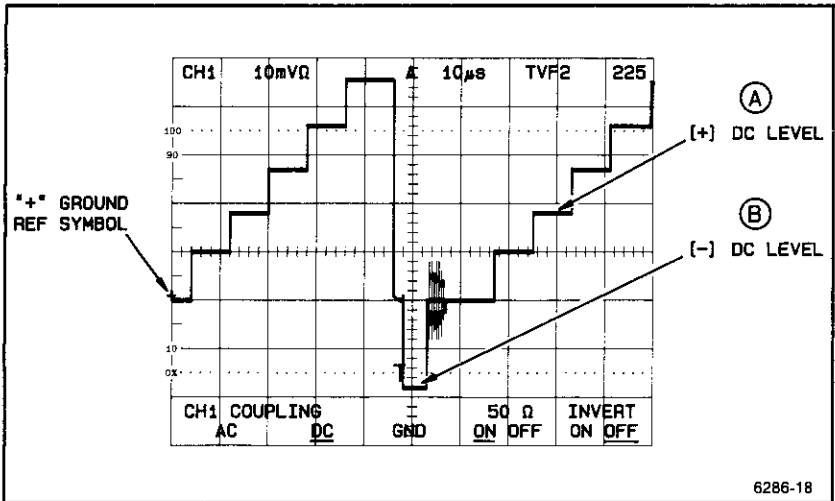

Figure 3-2. Instantaneous DC voltage levels on a waveform.
3. Vertically position the "+" indicator to a horizontal graticule line. Keep the waveform (or at least the point to be measured) on screen. See Figure 3-2.
Example calculation for the DC Level at Point B of Figure 3-2: